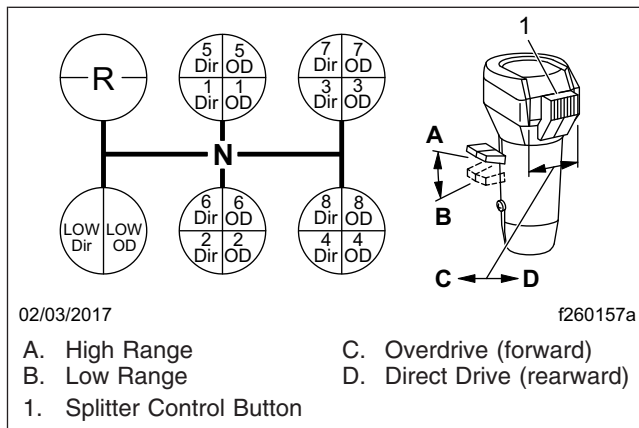

Fig. 14.2, Eaton Fuller 18-Speed Transmission Shift Pattern
Eaton Fuller 18-speed transmissions have eighteen forward speeds and four reverse speeds. Each transmission consists of a 5-speed front section and a 4-speed auxiliary section. The auxiliary section contains low- and high-range ratios, plus a splitter gear. See Fig. 14.2.
2. Position the range-preselection lever down, in low range and make sure the splitter-control button is in the low position. See Fig. 14.2.
4. Upshift from LOW overdrive to 1st direct by first moving the splitter-control button into the direct drive (rearward) position (Fig. 14.2). Double-clutch into 1st gear.